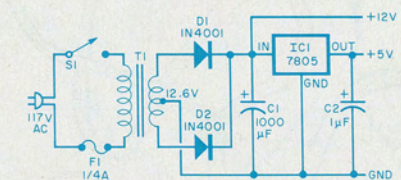

Fig. 2. A suitable power supply.
**Construction.** Since parts placement is not critical, any type of construction can be used. Once a board has been constructed, it can be mounted with the associated relays and a power supply (see Fig. 2 for a circuit) in a convenient enclosure. The front panel should mount the four input banana connectors J1 through J4, the system ground connector J5, clock speed control R3, and the three switches (S1 through S3).